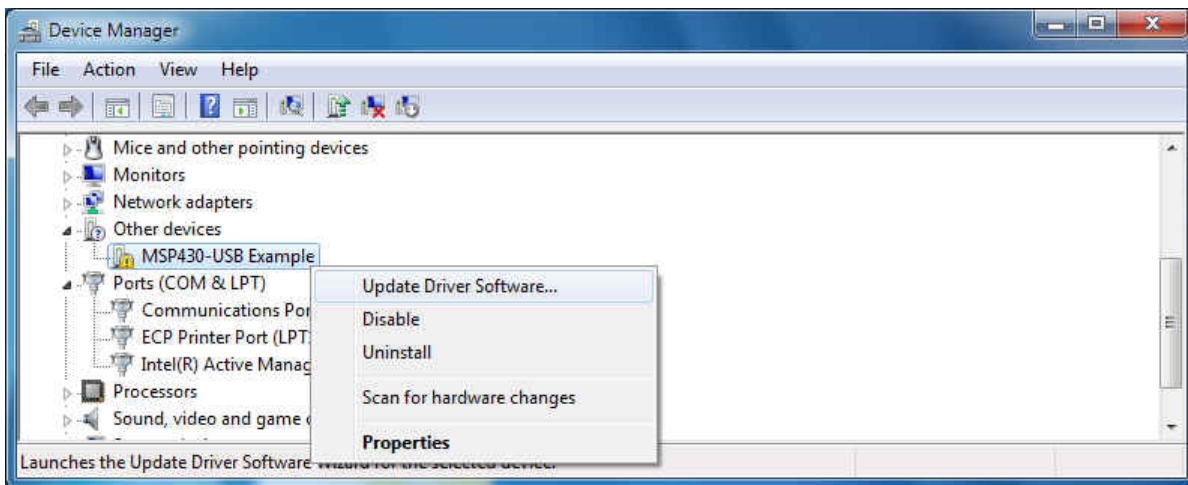

Figure 8. USB Driver Installation – Screen 1 (Win 7 OS only)
2. Win XP OS starts up the *New Hardware Wizard* to enable the user to install the USB driver for the new hardware. The Windows 7 or Windows 8 OS attempts to find the driver for the *new hardware found* automatically and if the driver is not found, there is no pop-up message to indicate that the driver installation failed. In the Windows 7 or Windows 8 OS, click on *Device Manager*, right click on *MSP430-USB* example under *Other devices* and click on *Update Driver Software* as shown in Figure 8. This step is not required for the Windows XP OS.